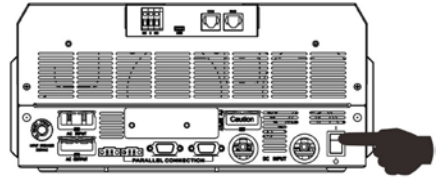

Figure II.17 - SOLTARO
3. Turn on the inverter (Figure II.17).